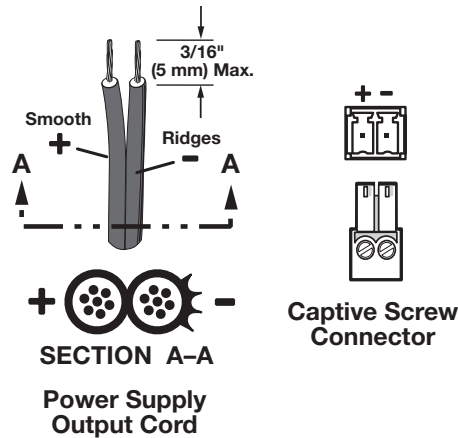

Figure 10. Power Connector Wiring
Figure 10 shows how to wire the connector. Snap the provided ferrite bead onto the DC power cable, between the power supply and the connector on the HDMI unit.
- Power supply voltage polarity is critical. Incorrect voltage polarity can damage the power supply and the unit. The ridges on the side of the cord (see figure 10) identify the power cord negative lead.